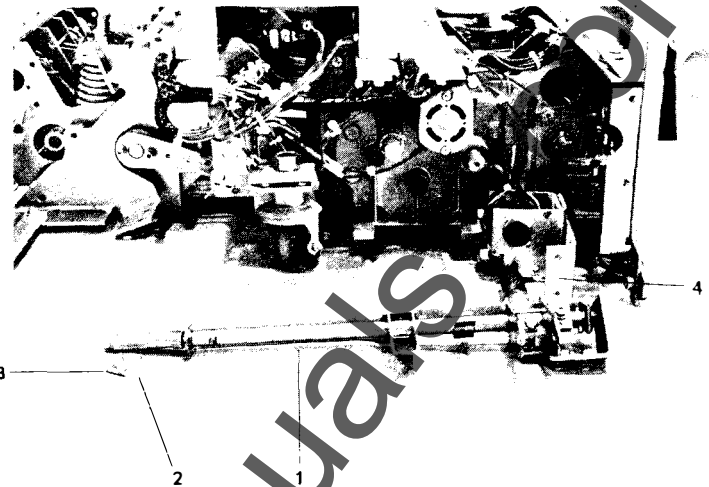

Fig. A15 Close Shaft (Forward) Removal
Remove the front angle plate (paragraph A.5.3) and the phase 3 (right side facing breaker) interrupter assembly (paragraph A.5.7). With the breaker open and the closing spring discharged, use end cutting nippers to cut the clamp which retains the close shaft drive pin. Remove the drive pin, (3) Fig. A15. Disconnect the charge/discharge mechanism spring. Remove the close coil (paragraph A.5.13) and maneuver the shaft out through the front of the breaker.